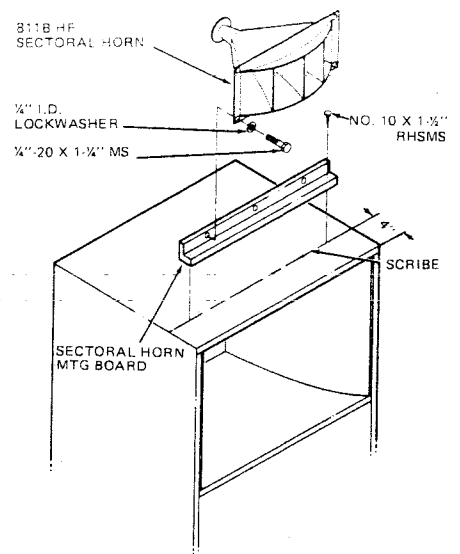
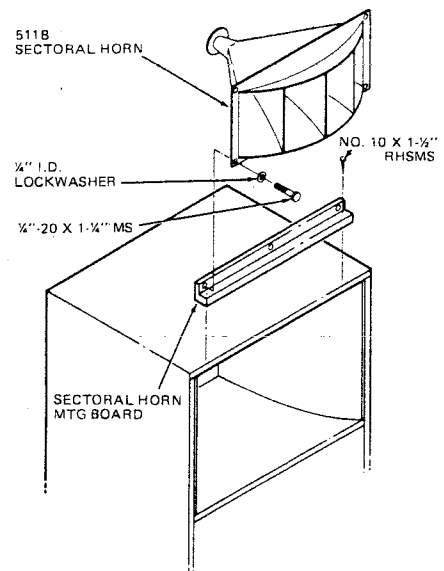

Figure 4a. External Mounting of Sectoral Horn (A7-8)
Figure 4b. External Mounting of Sectoral Horn (A7-500-8)
- Place 828B cabinet upright. Remove horn mounting board from inside bottom of cabinet. If assembling an A7-8 system (811B horn, 806 type driver), scribe a line 4 inches from front edge of cabinet, center horn mounting board on scribed line, and secure with four No. 10 x 1 1/2" round-head sheet metal screws at predrilled holes (see Figure 4a). If assembling an A7-500-8 system (511B horn, 802 type driver), center horn mounting board on front edge of cabinet and secure with four No. 10 x 1 1/2" round-head sheet metal screws at predrilled holes (see Figure 4b).